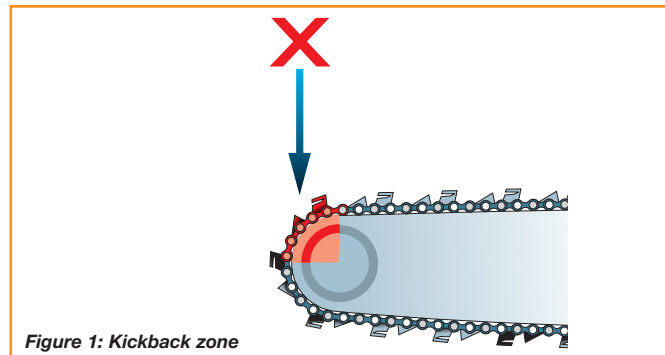

Figure 1: Kickback zone
- it is fitted with a chain type recommended by the manufacturer and is designed to reduce kickback, which is the uncontrolled upward and/or backward motion of the guide bar. It happens when the nose of the guide bar contacts an object such as a log or branch or when the wood pinches the saw chain in the cut (see *Figure 1*);